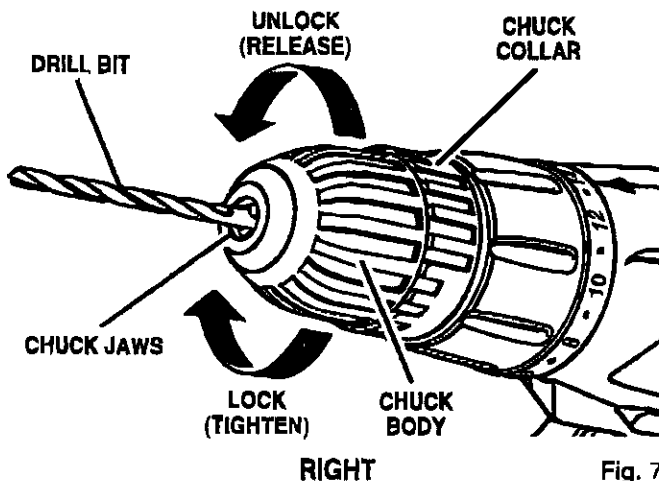

Fig. 7
See Figure 7.
- Insert drill bit straight into chuck the full length of the jaws as shown in Figure 7.